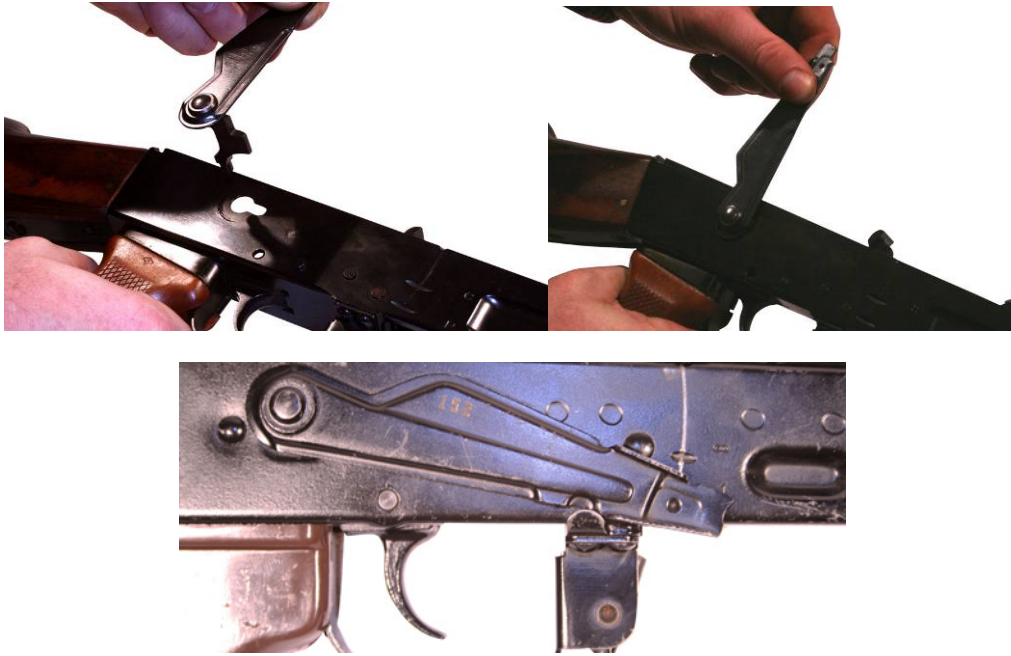

Figure 39. Installing the Selector Lever and Setting on SEMI.
- g. With the selector lever in the 12 o'clock position, install it on the right side of the receiver and rotate down to the SEMI position. Refer to Figure 39.